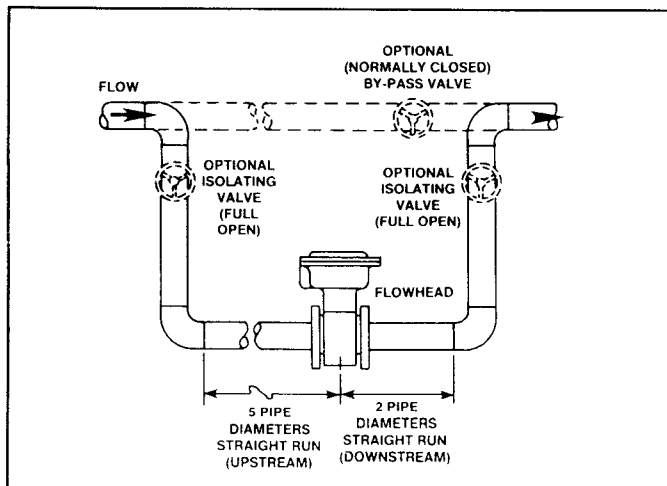

Figure 2-1 Horizontal Installation Piping
- C. For accurate operation it is mandatory that the flowmeter be installed so the flow tube will be completely full of process liquid under all operating conditions. When the meter is only partially filled, even though the electrodes are covered, an inaccurate measurement will result. Refer to Figures 2-1 and 2-2.
Install the by-pass piping and valves as shown in Figures 2-1 and 2-2.